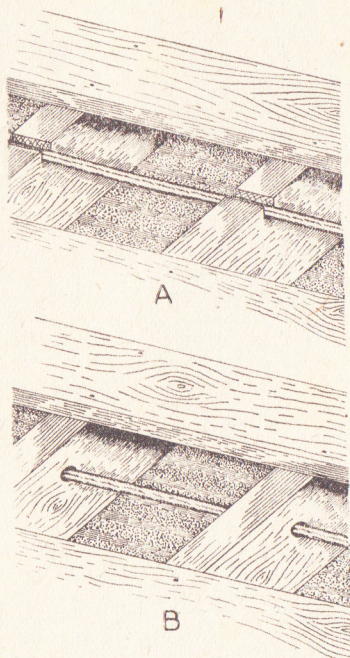

Fig. 1—How cabling runs in joists
Often, however, the cable runway is at right angles to the joists, and the job is then not quite so easy. One method of laying the cable at right angles to the joists is indicated in view (A) in Fig. 1. Here a floorboard is removed, each joist is slotted and the cable is laid in
If the cable is to be run in tubing, the method of slotting the joists must be adopted. If, however, the cable is lead sheathed or of the rubber insulated type, a much better method is to lay the cable as indicated in (B) Fig. 1.